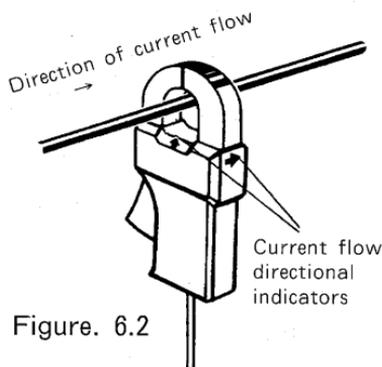

Figure 6.2
- Clamp the sensor over the conductor noting the current direction marks (arrows) on the front and side panels of the clamp. These should be facing with the flow of current, or toward the load. (See Figure 6.2.)